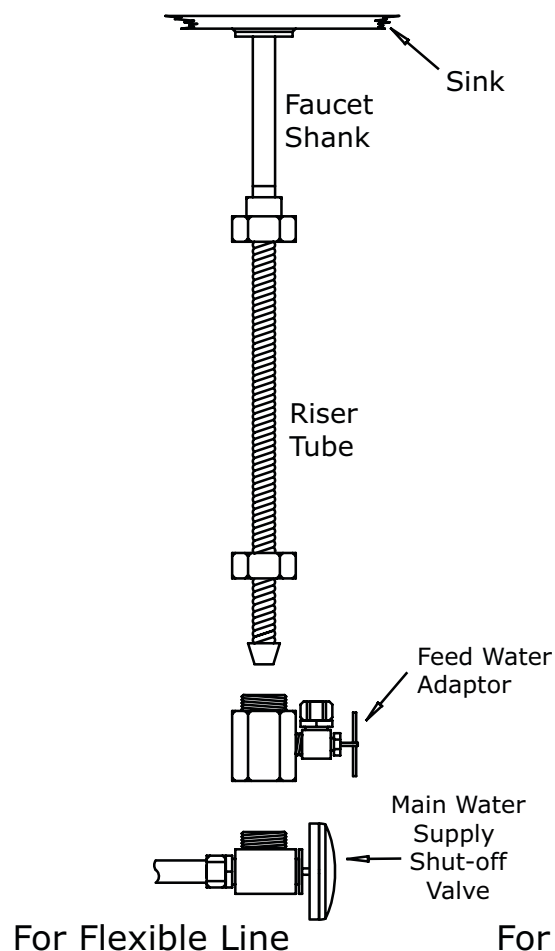
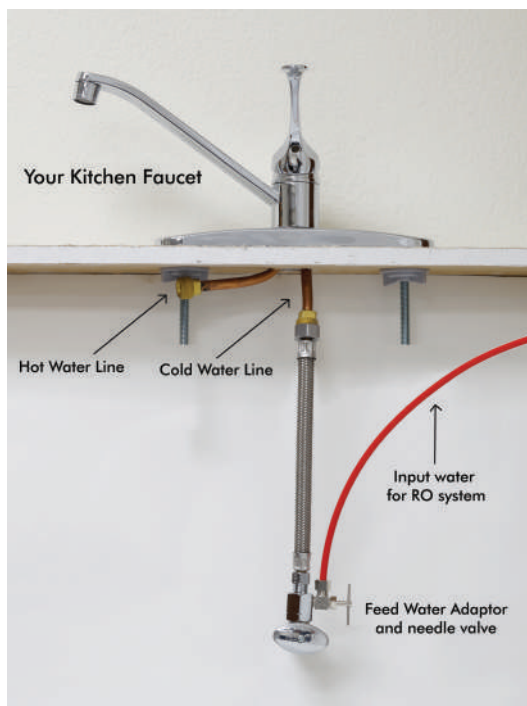

Fig. 6A
Fig. 6D
3. **Recommend Connection For Flex Line Riser:** See **Fig.6A. & Fig. 6D.** Loosen nut and separate cold water riser tube from faucet shank. Gently bend riser tube so that the Feed Water Adapter (Fig 5) fits onto the faucet shank. If your riser tube has no built-in washer, then fit the cone-shaped washer provided onto the riser tube. Connect the riser tube, the feed water adapter, and faucet shank together and **tighten**.